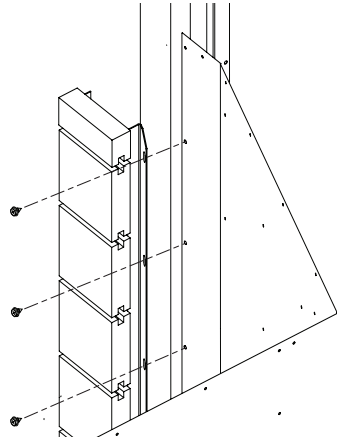

Figure 26 - Installing Leading Bricks
1. The firebox is shipped with the firebrick wall retaining brackets preinstalled. There are a total of six (6) brackets. Remove these brackets before installing any of the firebrick walls.
4. Install the left and right leading bricks. Set the firebrick wall on the hearth with the sheet metal side toward the firebox surround. The bricks will be flush with the face of the fireplace. Secure with screws provided as shown in Figure 26.